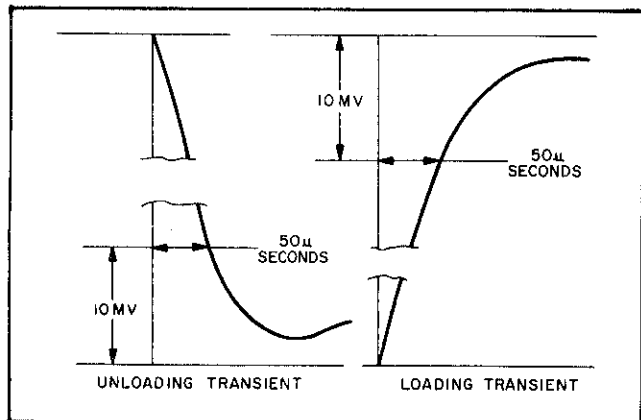

Figure 5-8. Transient Recovery Time, Waveforms
j. Starting from the major graticule division representative of time zero, count to the right 50  $\mu$ sec and vertically 10mV. Recovery should be within these tolerances as illustrated in Figure 5-8.